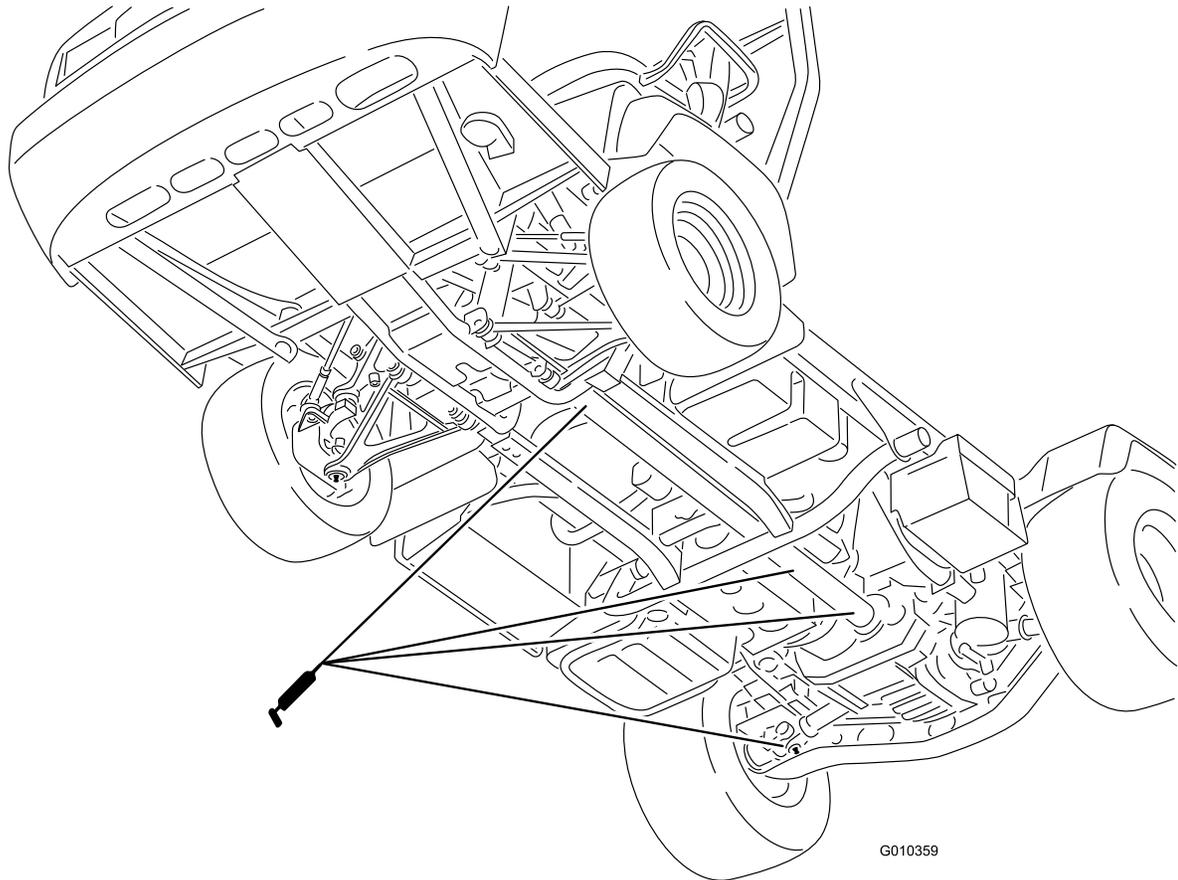

Figure 31
- **U-joint (18)**; refer to Figure 31
- **4-wheel drive shaft (3)**; refer to Figure 31